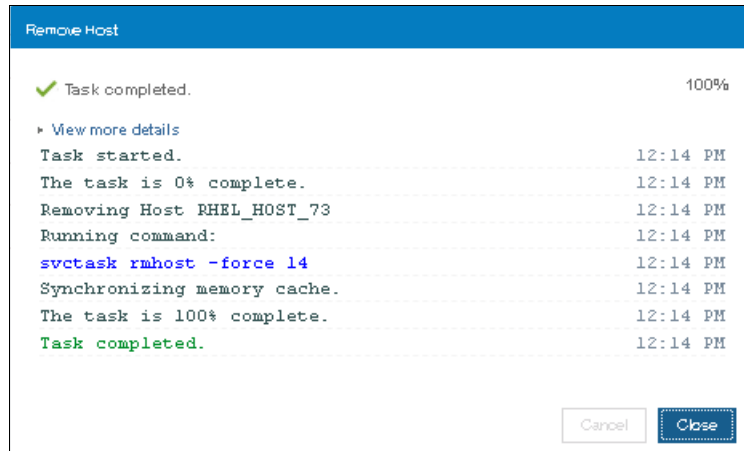

Figure 8-24 Host removal task completion
4. A task completion window will open as shown in Figure 8-24 on page 363.